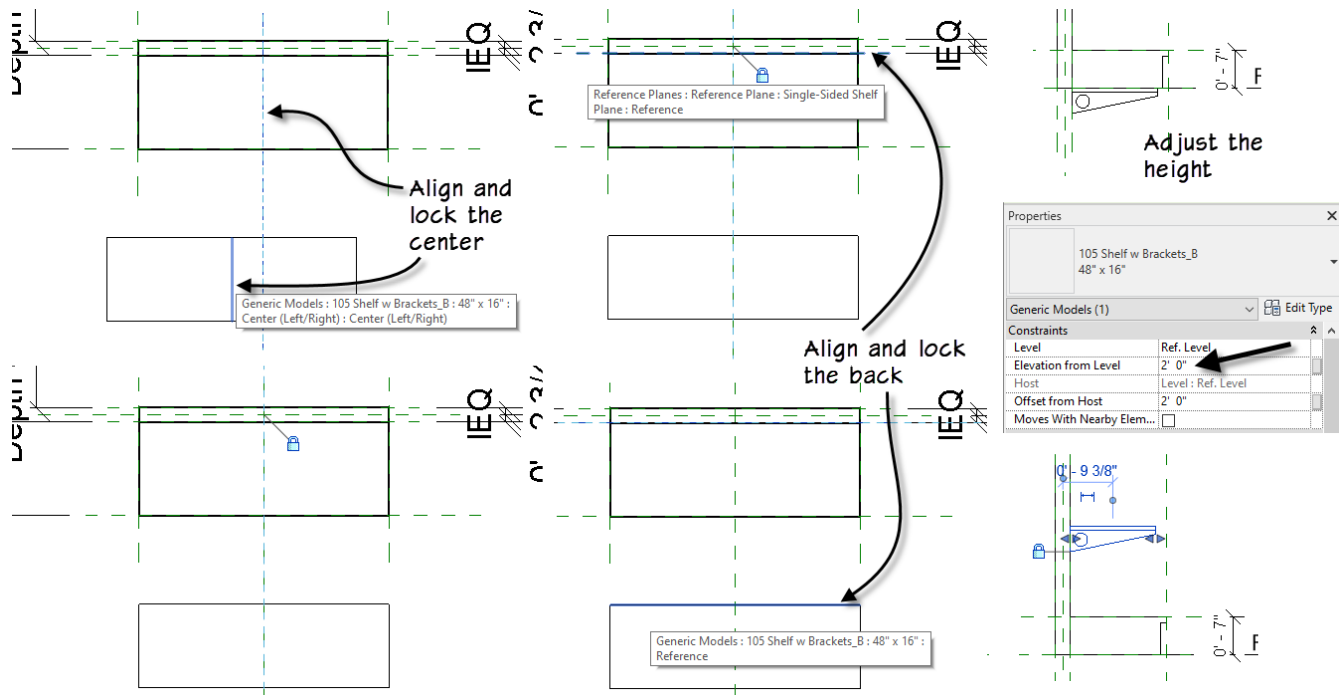

Figure 30
6. Using the Align tool, align the center of the shelf to the center of the host family. Lock it (see the left side of Figure 30).
7. Align the back of the Shelf w Brackets to the reference plane named **Single-Sided Shelf Plane**. Lock it as well (see the middle of Figure 30).
9. In the *Left* view, select the Shelf. On the Properties palette, change the Elevation from Level to: **2'-0"** (see the right side of Figure 30).